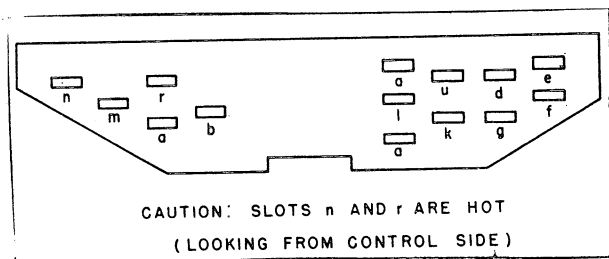

Figure 35
3. A diagram of the control receptacle, looking from the slots side, is shown in Figure 35.